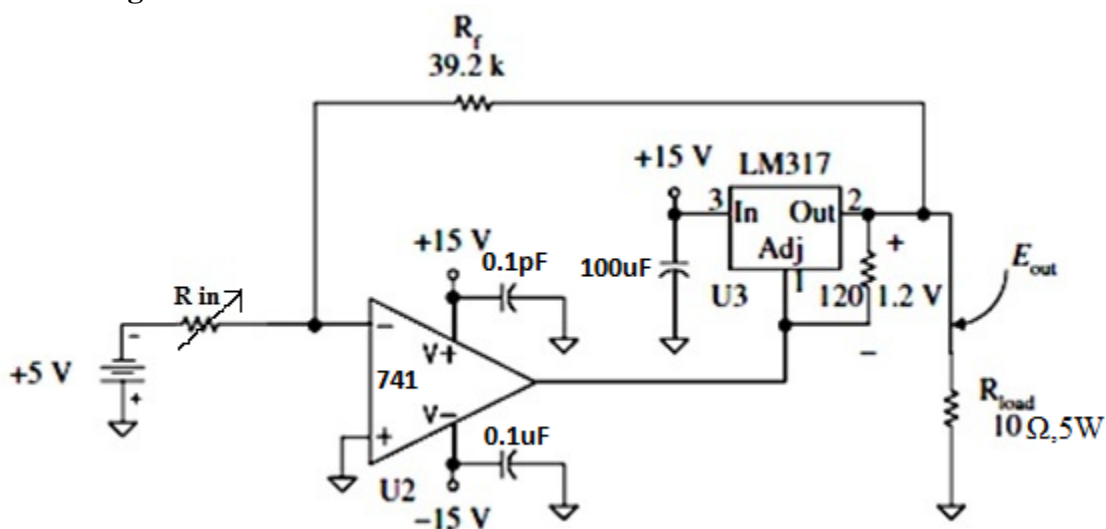

Figure 1. Circuit schematic of composite amplifier
1. Build the circuit as shown in Figure 1.